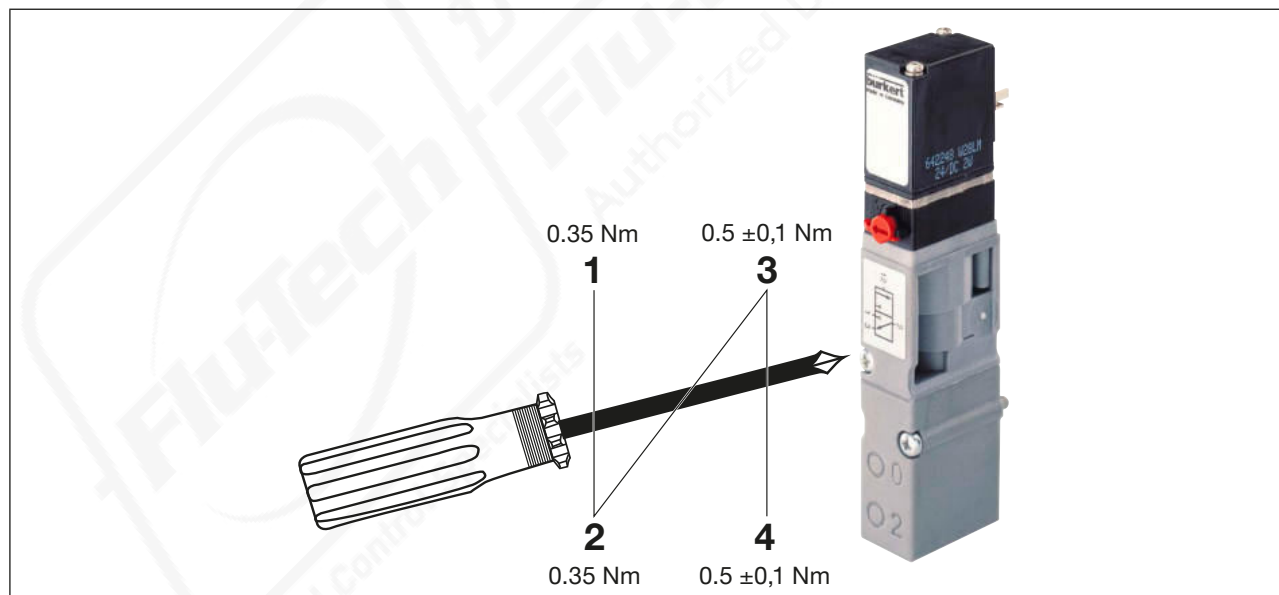

Fig. 35: Tightening the screws when replacing valves Type 6526 and Type 6527
- Tighten the fastening screws crosswise, paying attention to the tightening torque (see Fig. 35).